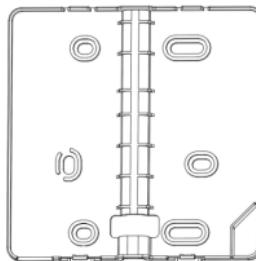

Fig.2
- 3.As shown in Fig.2,fix the wire controller to the wall with three screws through the three oval holes on the back cover of the wire controller.